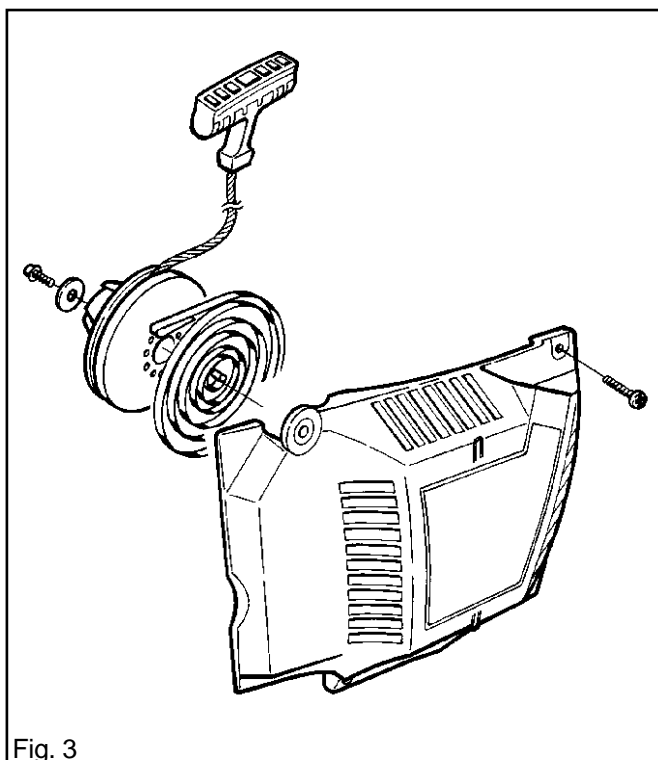

Fig. 3
4. Remove the central bolt and take out the washer and cord pulley. See fig. 3.
5. Fit the washer and central bolt. See fig. 3. Tighten the bolt to 4 Nm.
7. Release the flywheel nut. Undo the nut until it is in line with the thread on the shaft outer end. See fig. 3.